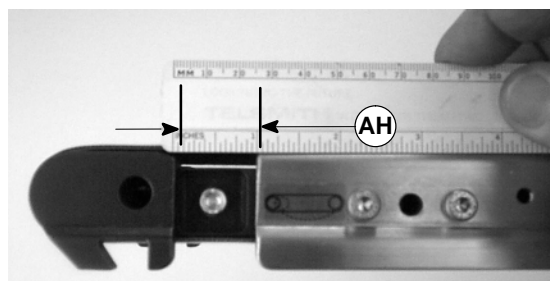

Figure 28
With V-guide seated in pulley, rotate the pinion gear (Y) counter-clockwise to a distance of 1" (25 mm) (AH of Figure 28).